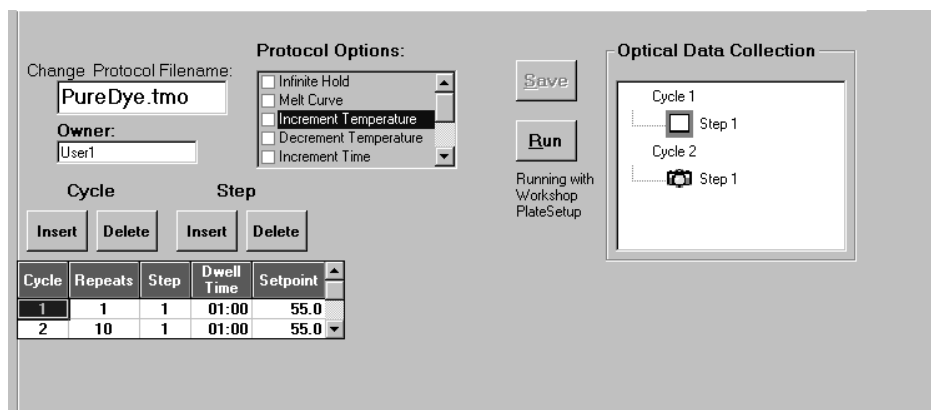

Fig. 2.7.
- Create a thermal protocol that contains two cycles. The first cycle should be 1 minute at 55  $^{\circ}$ C followed by 10 repeats of a second cycle, also at 55  $^{\circ}$ C for 1 minute. Choose to collect data for real-time analysis (yellow camera icon) at the second cycle. (Figure 2.7)